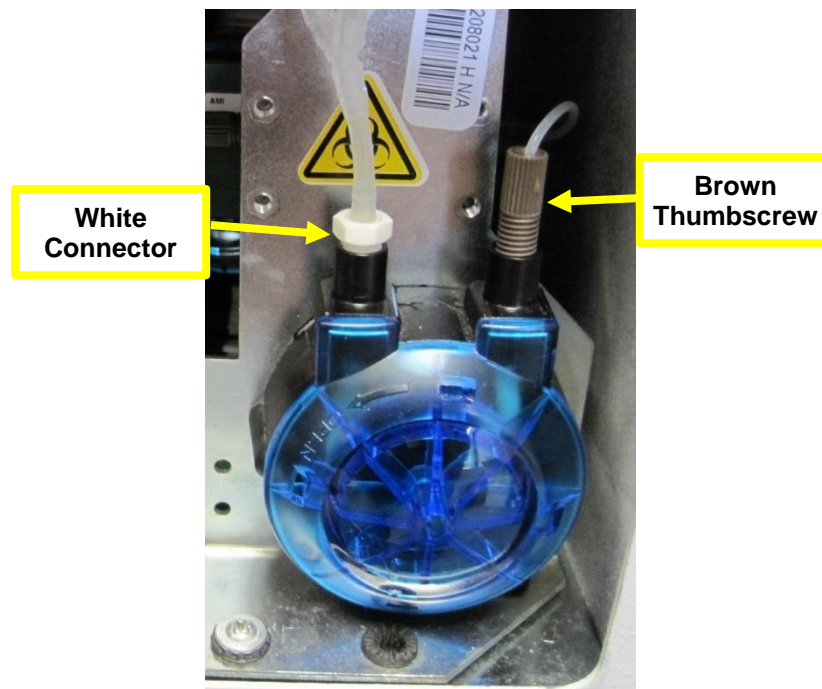

Figure 14
- Remove the tubing from the white connector on the left side of the peristaltic pump and unscrew the brown thumbscrew on the right. Figure 14